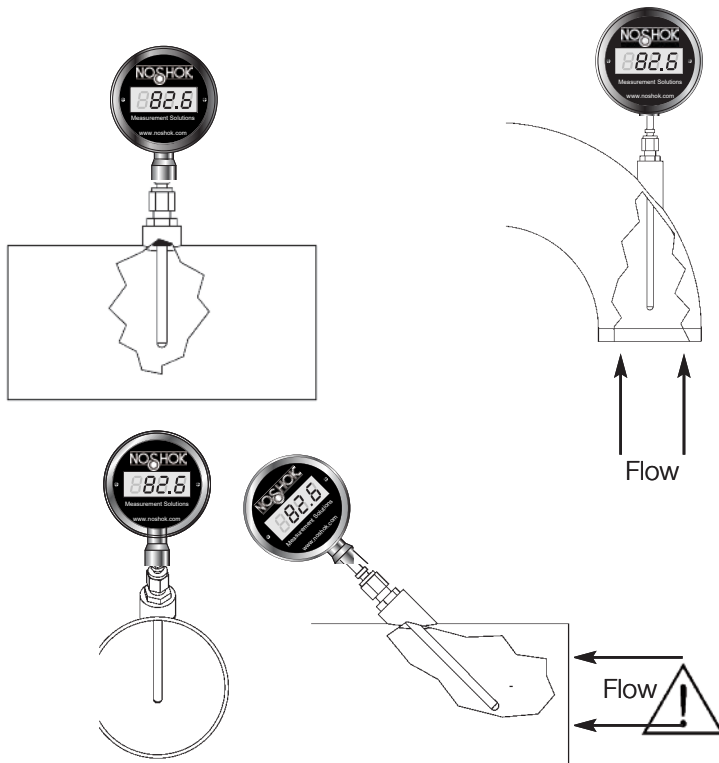

Figure 1
4.3. Orientation: See Figure 1.